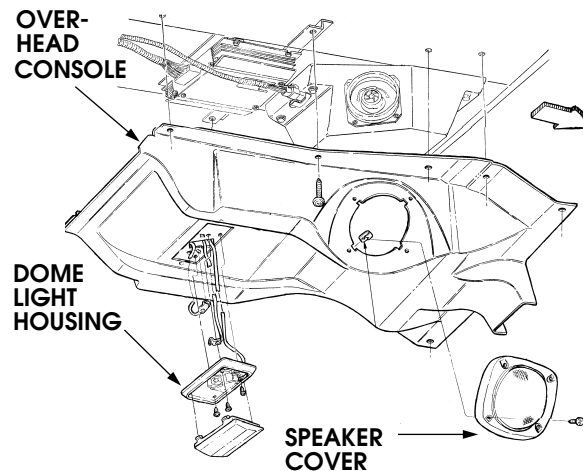

Figure 12-138: Overhead Console Removal.
2. Remove dome light lens, screws securing ground wires and housing (Figure 12-138).